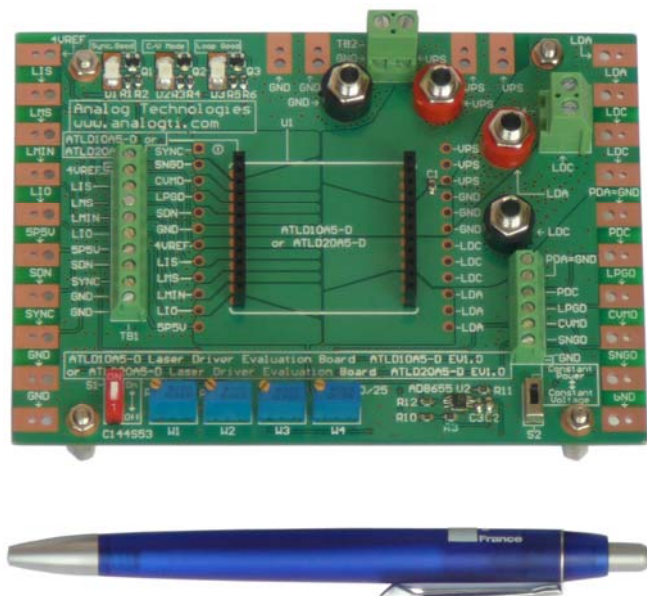

Figure 1 ATLD10A5-D EV1.0 Photo
The ATLD10A5-D is an electronic module designed for driving high current diode lasers with well controlled output current and laser power or voltage. Its efficiency is so high that no heat sink is needed even outputting a 10A current. The output voltage range is from 0V to 14.25V when powered by a 15V power supply. This laser driver module can be evaluated conveniently by using the ATLD10A5-D EV1.0, the evaluation board for ATLD10A5-D Revision 1.0. Figure 1 shows ATLD10A5-D EV1.0 photo. It is recommended to read this application note with the ATLD10A5 datasheet which provides more detail information about the specifications and application guidance for the laser driver module.
- Hook up the power supply. There are 4 solder pads in the upper right area on the edge for connecting the power supply voltages. The connection can be done by clipping or soldering on the pads, use the bananas to plug banana sockets, or use the screws to lock in 2 wires through the terminal block TB2, see Figure 1.